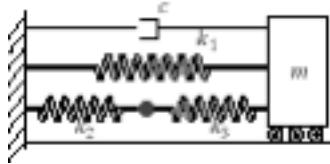

Figure P1.72
- 1.72** Calculate the natural frequency and damping ratio for the system in Figure P1.72 given the values $m = 10$ kg, $c = 100$ kg/s, $k_1 = 4000$ N/m, $k_2 = 200$ N/m and $k_3 = 1000$ N/m. Assume that no friction acts on the rollers. Is the system overdamped, critically damped or underdamped?